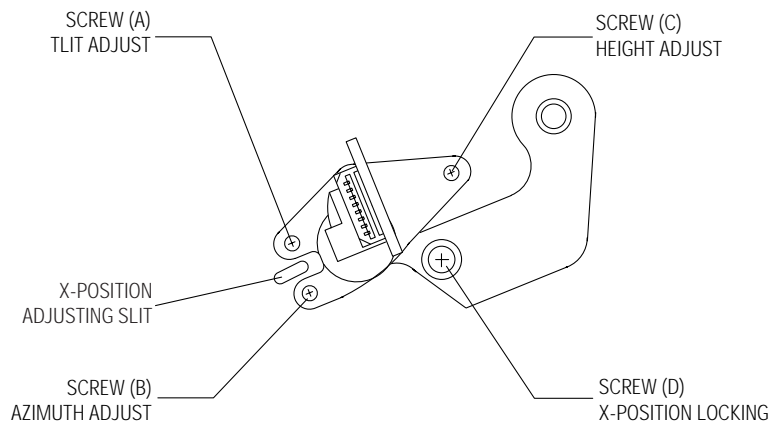

Fig. 6-5 Location of ACE Head Adjustment Screw
- 3) Turn screw (C) clockwise or counterclockwise until the gap of lower tape edge and the lower edge of the control head is about 0.25mm. (Refer to Fig. 6-5 and 6-6)
- 3) Adjust screw (B) to achieve maximum audio level. (See Fig. 6-5)